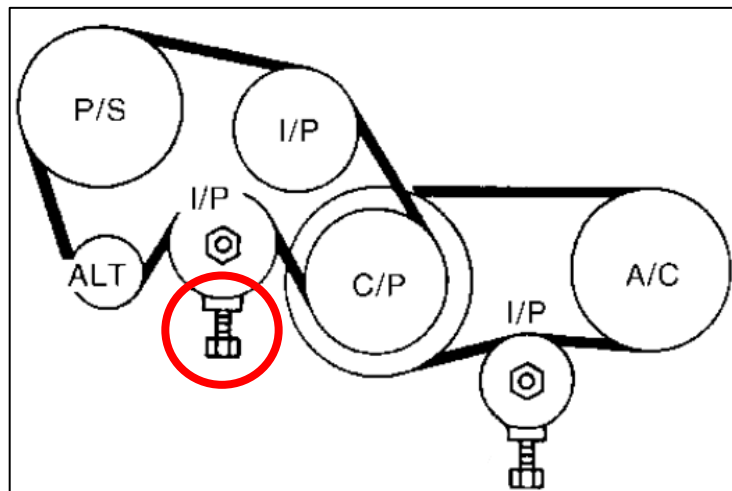

Figure 2
6. Loosen the Belt Tensioner from underneath the car. *Figure 2.*